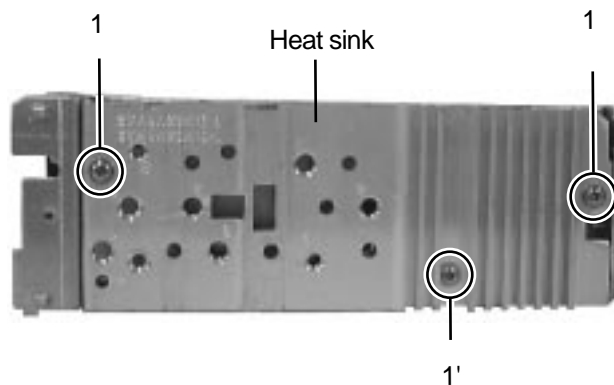

Fig. 5
■ **Removing the Heat Sink ( See Fig. 5 )**
( See Fig. 5 to 7 )